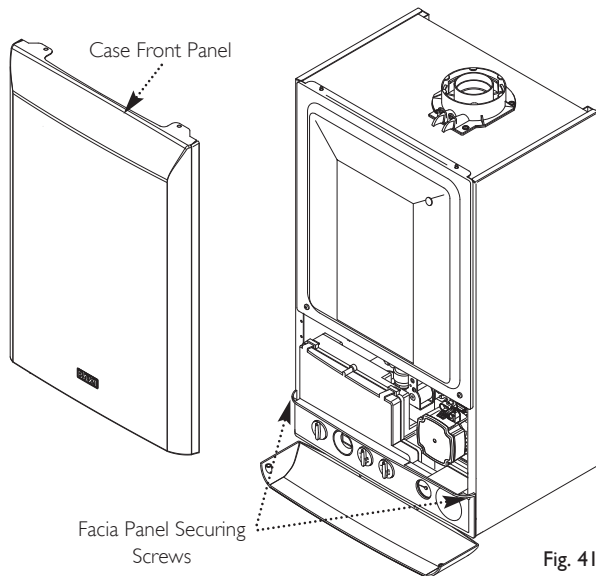

Fig. 41
3. Slacken the screws securing the facia panel. Lift the outercase panel so that its securing tabs are clear of the facia. Remove the panel, allowing the facia to hinge down (Fig. 41).